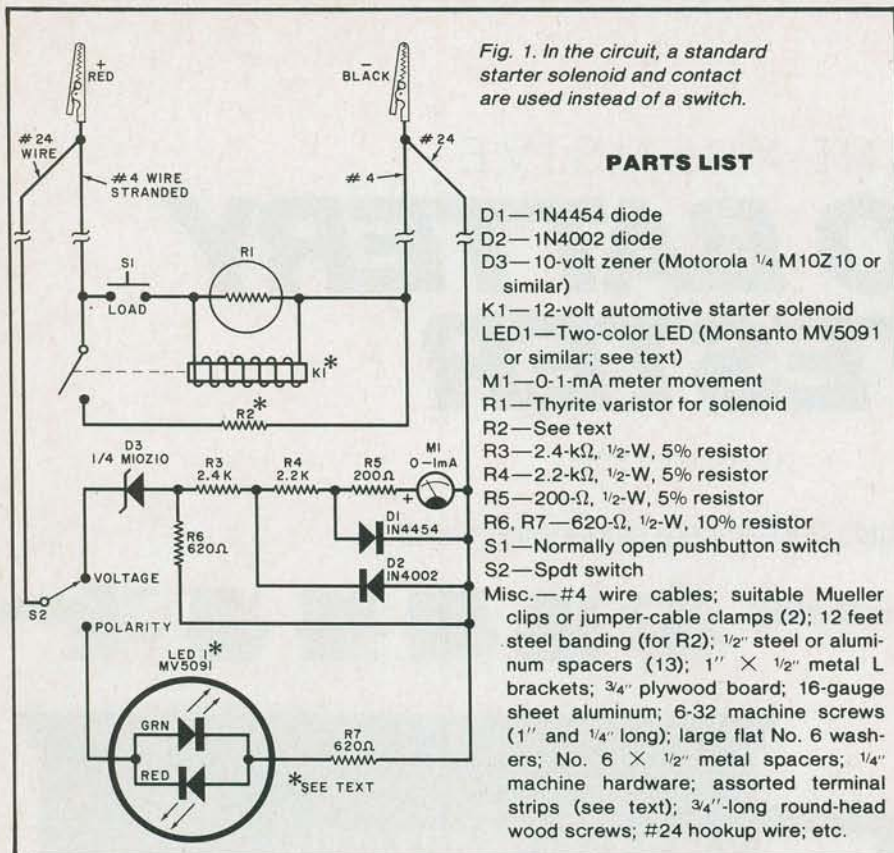

Fig. 1. In the circuit, a standard starter solenoid and contact are used instead of a switch.
**The Circuit.** The battery tester, shown schematically in Fig. 1, assumes the test current to be 200 amperes at 12 volts. (To determine appropriate load current, refer to the box.) Using Ohm's Law and assuming a 12-volt battery, you can readily see that load resistor  $R2$ 's value would have to be a very low 0.06 ohm ( $R = E/I = 12 \text{ volts}/200 \text{ amperes} = 0.06 \text{ ohm}$ ). Furthermore, its power rating would have to be a whopping 2400 watts ( $P = IE = 200 \text{ amperes} \times 12 \text{ volts} = 2400 \text{ watts}$ ). Clearly, you're not going to find a resistor with these ratings in your local electronics parts store. Fortunately, however, you can fabricate your own power resistor from available inexpensive materials.
You're not likely to find a switch that can handle 200 amperes in an electronic parts store, but a conventional 12-volt automotive starter solenoid ( $K1$  in Fig. 1) will fill your need. Operating current for the solenoid is controlled by normally open pushbutton switch  $S1$ .
When selector switch *S2* is set to POLARITY, LED1 glows green if the tester is connected to the battery in proper polarity, red when the connection's polarity is incorrect. Note that Fig. 1 shows and the Parts List specifies an integrated red/green LED assembly for LED1. If you wish, you can replace this with discrete red and green LEDs, connecting them into the circuit as shown for the integrated unit.
Wire the circuit as shown in Fig. 1. Note that separate #24 wires are used as voltage sensors and are run in parallel with the large #4 cables that carry the actual current. The #24 wires are used to measure the voltage at the battery before any voltage drops in the cable resulting from the high-current flow through *R3*. When installing the #24 wires, route them along the #4 cables and use either lacing cord or tape to bind wire and cable together. Finish the assembly by attaching large Mueller clips or jumper-cable clamps to the free ends of the #4 cables.